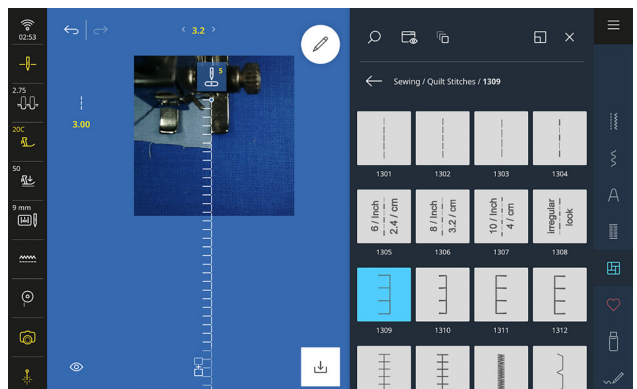

Fig. 9
7. Sew your appliqué. Use the camera view to help guide your stitching (Fig. 9). As you approach your starting point, use the camera view to gauge how many stitch patterns you can sew before you overlap the starting point.